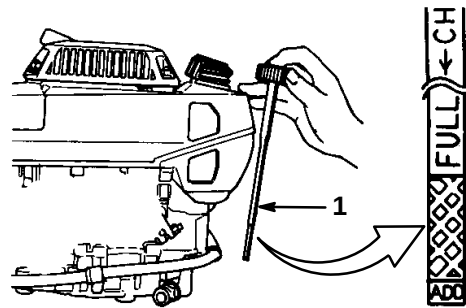

Figure 4
Before each use, ensure that the oil level is between the FULL and ADD marks on the dipstick (Fig. 4). Add oil if the level is low.
1. Position the mower on a level surface and clean around the dipstick (Fig. 4).
5. Remove the dipstick and check the level of the oil on the side of the dipstick with the FULL and ADD marks (Fig. 4).